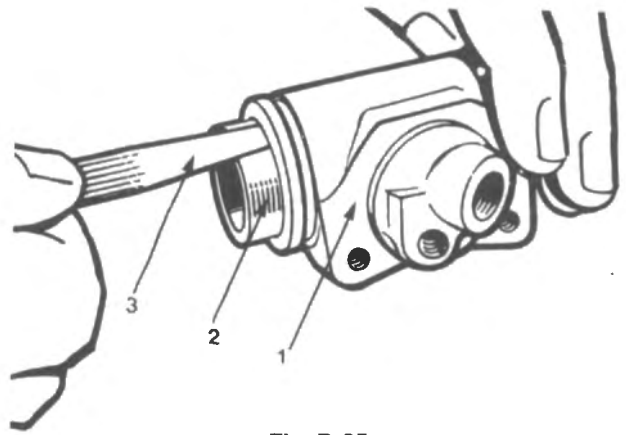

Fig. R-25
- 3 Check the piston for wear or damage and for clearance in the cylinder. This clearance should be within the range of 0.051 to 0.13 mm (0.002 to 0.005 in). Refer Fig. R-25.